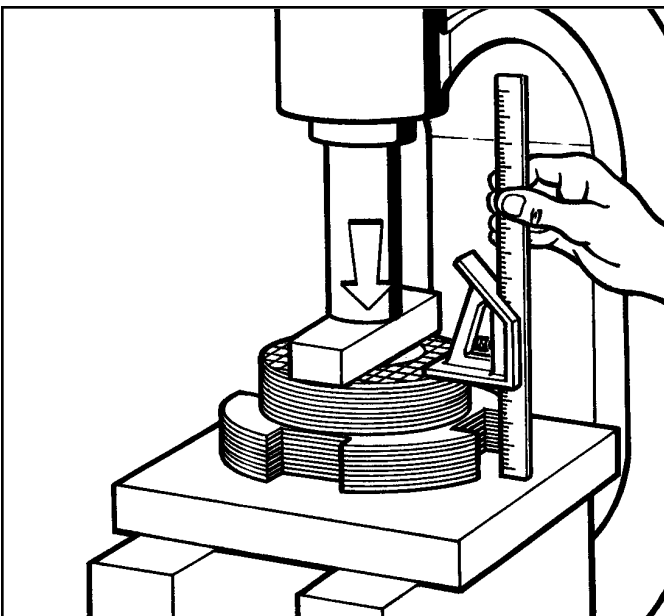

Figure 9.12 - Measuring Stack Height
- Based on the parts list, place the total number of Friction Discs and Drive Plates in an arbor press as shown in Figure 9.12.